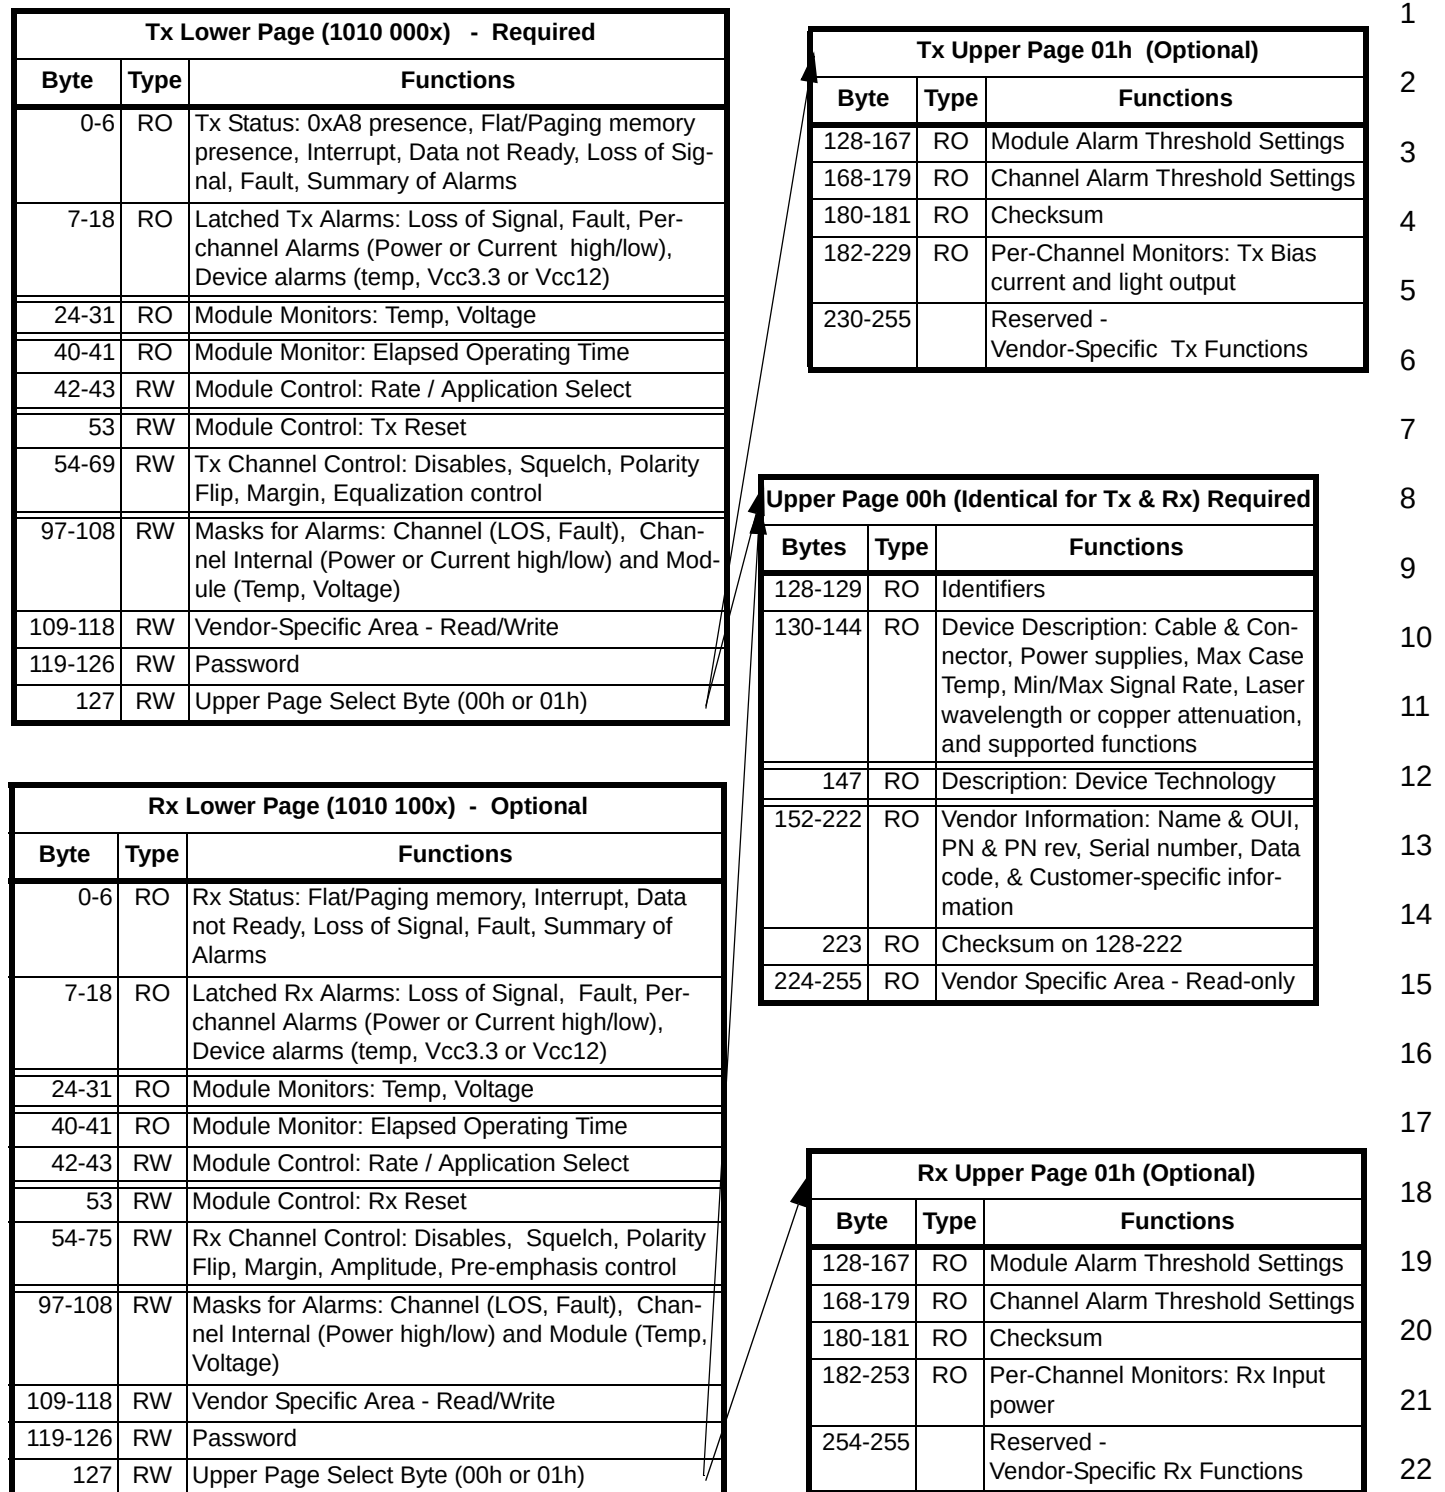

Figure 37 Memory Map 2-Wire Serial Addresses 1010 000x (Tx) & 1010 100x (Rx)
The structure of the memory map is shown in Figure 37 on page 72. It includes two ranges of serial addresses, at 0xA0 (for Tx and basic required functions), and 0xA8 (for optional extensions, including Rx functions). Each address (0xA0 and 0xA8) contains one lower page and at least one upper page (00h), with one optional other upper page (01h) per address range. Each page contains 128 bytes of address space. The lower page or pages contain Read-Only information, and may contain Read-Write fields as well, for more sophisticated devices. The upper pages contain only Read-Only (RO) information. Only the first upper page (00h) is required. Other(s) are optional, to allow devices without pageable memory.